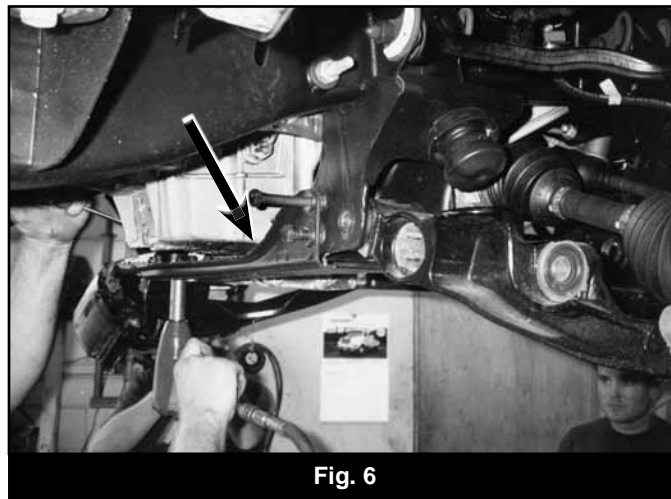

Fig. 6
23. Support the differential housing with a hydraulic jack. Remove the rear differential crossmember (Fig 6) and discard. Remove all differential housing mounting hardware. Carefully lower the differential from the vehicle. Retain all hardware.